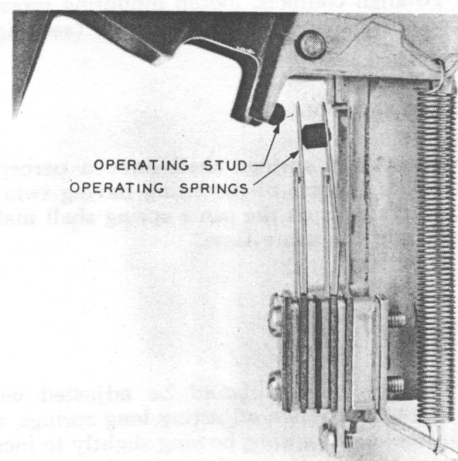

FIG. 2B — G-TYPE MOUNTING MARGIN
3.04 On G-type mountings, the operating stud shall not touch the operating springs when the switchhook is in its extreme upward position (see Fig. 2B).